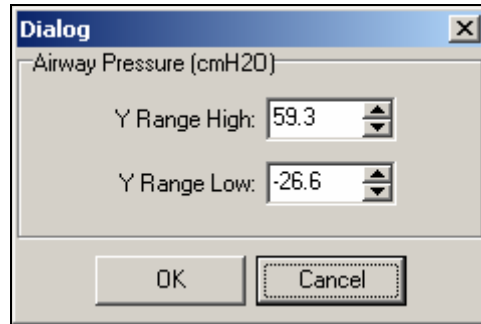

Figure A-29. Manual Rescale
1. Select Rescale and Manual Scale from the Plot menu. The dialog box shown in Figure A-29 appears.